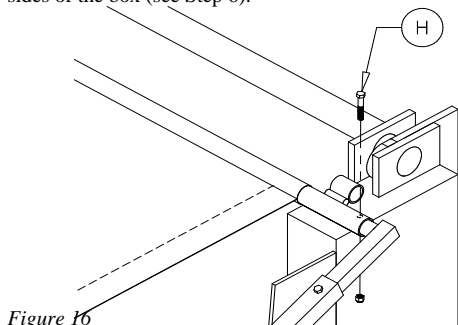
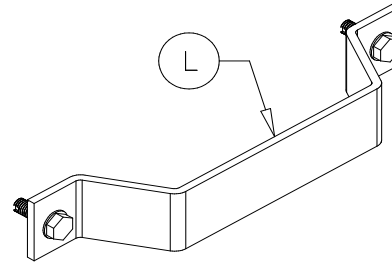

Figure 16
Figure 18
Rotate the rear pivot arm crossmember (F) so that the crossmember guides (I) are resting on the top of the box with the crossmember (see Figure 18). Using a 5/16" drill bit, drill through the pivot arm crossmember (F) and top pivot arm (G). Secure the pivot arm crossmember to the top pivot arms with the 5/16"x1-3/4" hex bolts (H) and 5/16" nylon lock nuts provided (see Figure 16).